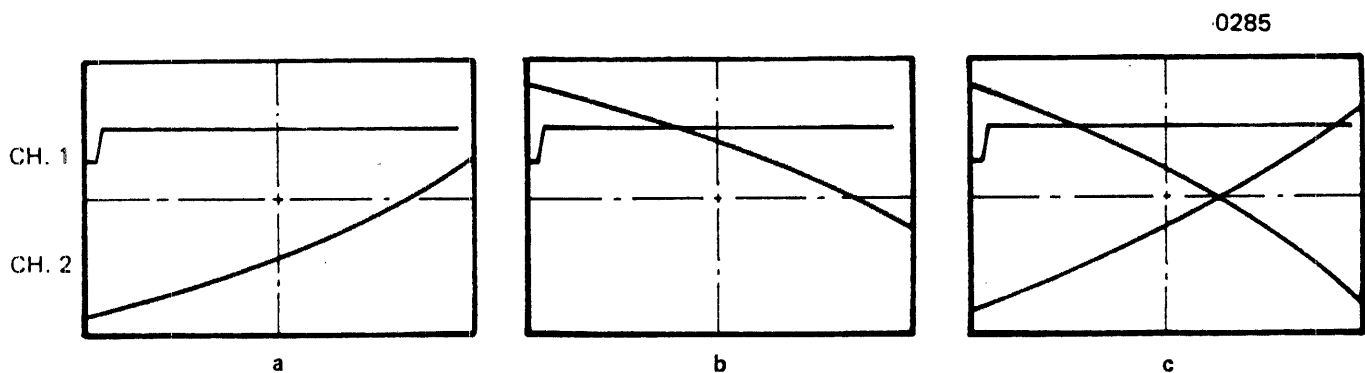

Figure 4-29. Triggering Method
- c. Set channel 1 oscilloscope probe and external trigger probe on test point TP107 (Read Data Electronics PWB) and set Channel 2 oscilloscope probe on test point TP103. Set oscilloscope sweep for sufficient resolution to accurately measure the time between leading edge of each trace. One of patterns shown in Figure 4-29 can then be observed on oscilloscope screen.